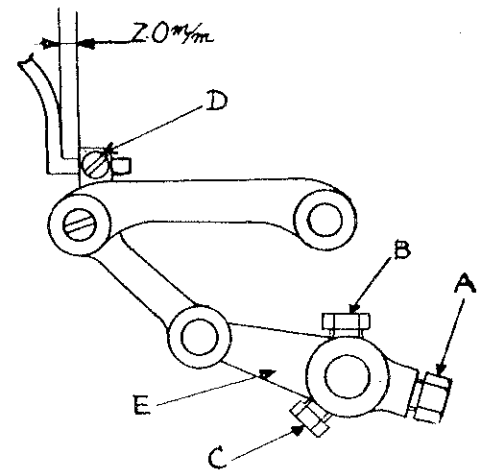
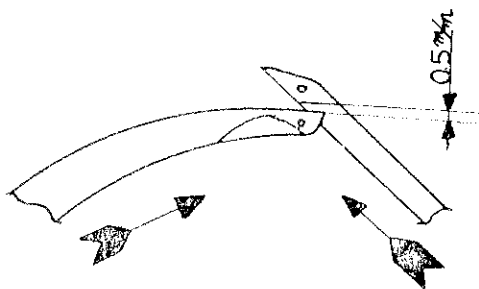
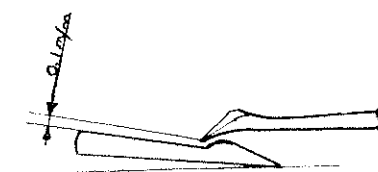

fig 11
fig 13
fig 14
RIGHT LOOPER ADJUSTMENT FOR MODEL 286 (THREE THREAD OVER-LOCK) FIG. 11
2. RIGHT LOOPER ADJUSTMENT FIG. 11, 12, 13, 14
TO ADJUST THE POSITION OF THE RIGHT LOOPER (FIG. 11) LOOSEN SCREW (B & C) ENTIRELY AND SCREW (A) PARTIALLY. THE RIGHT LOOPER AT THE EXTREME LEFT POSITION SHOULD LEAVE 2.5mm TO 2.8mm CLEARANCE FROM THE LOOPER EYELET TO THE NEEDLE. TO OBTAIN THIS POSITION REGULATE LOOPER LINK (E) AT THE SAME TIME MOVE THE LOOPER AT POINT (D) FIG. 11 SO THAT THERE IS A CLEARANCE OF .5mm BETWEEN THE HEAD OF THE LEFT LOOPER AND UPPER END OF THE RIGHT LOOPER FIG. 13. WHEN CROSSING THE TIP OF THE RIGHT LOOPER THE SPACE BETWEEN THE HEAD OF THE LEFT LOOPER SHOULD BE .1mm TO .2mm WHEN VIEWED FROM THE TOP OF THE MACHINE FIG. 14. AFTER THESE ADJUSTMENTS ARE MADE TIGHTEN SCREWS (A, B, & C)
RIGHT LOOPER ADJUSTMENT FOR 286-3 (TWO THREAD SERGER) FIG. 11 & 16
WHEN ADJUSTING THE BLIND LOOPER FOR TWO THREAD OPERATION THE LOOPER AT THE EXTREME LEFT POSITION FROM THE LOOPER TOP TO THE NEEDLE SHOULD BE FROM 2.5mm TO 2.8mm. THE ADJUSTMENT IS MADE BY MEANS OF LOOPER LINK (E) FIG. 11. OTHER ADJUSTMENTS REMAIN THE SAME AS IN THE CONSEW 286-2 (3 THREAD MACHINE).
RIGHT LOOPER ADJUSTMENT FOR MODEL 296 (FOUR THREAD SAFETY STITCH) FIG. 11, 17, 19.
ADJUST LOOPER LINK (E) FIG. 11 SO THAT THE RIGHT LOOPER AT ITS EXTREME LEFT POSITION LEAVES A CLEARANCE OF 3.0 TO 3.3mm BETWEEN THE LOOPER EYELET AND THE LEFT NEEDLE FIG. 17. WHILE ADJUSTING THE ABOVE LEAVE 1 TO 2mm CLEARANCE BETWEEN THE RIGHT LOOPER HEAD AND RIGHT NEEDLE (FIG. 18.) WHEN THE RIGHT NEEDLE AND RIGHT LOOPER ARE CROSSING.